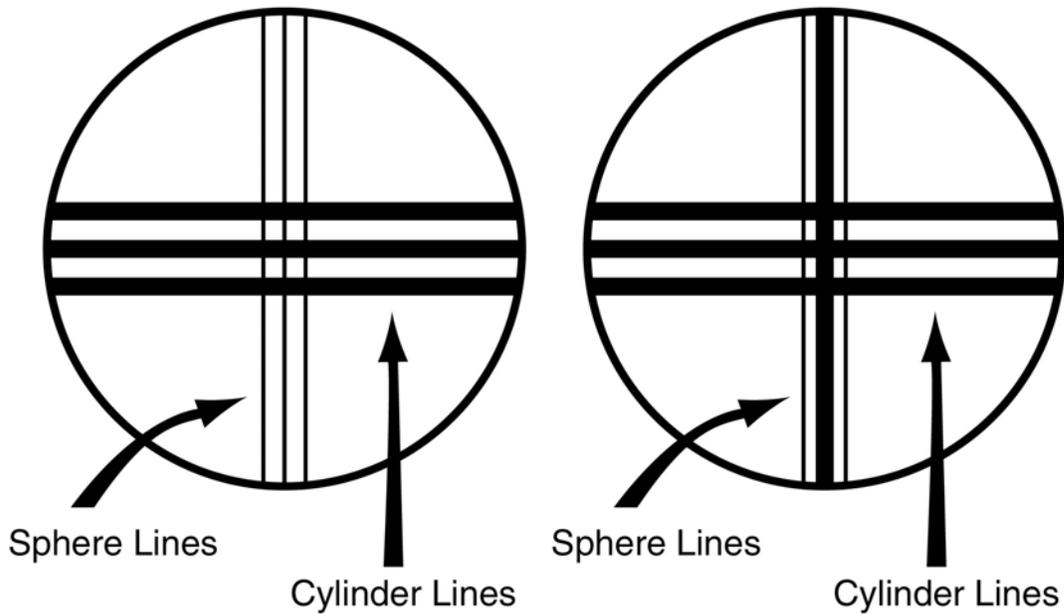

Figure 4
- B. Turn the power wheel into the plus, then slowly decrease the power until the target (Figure 4) starts to focus. If the target is not centered on the reticle, move the lens around on the lens stop to center the target. Exact centration is not necessary at this point.